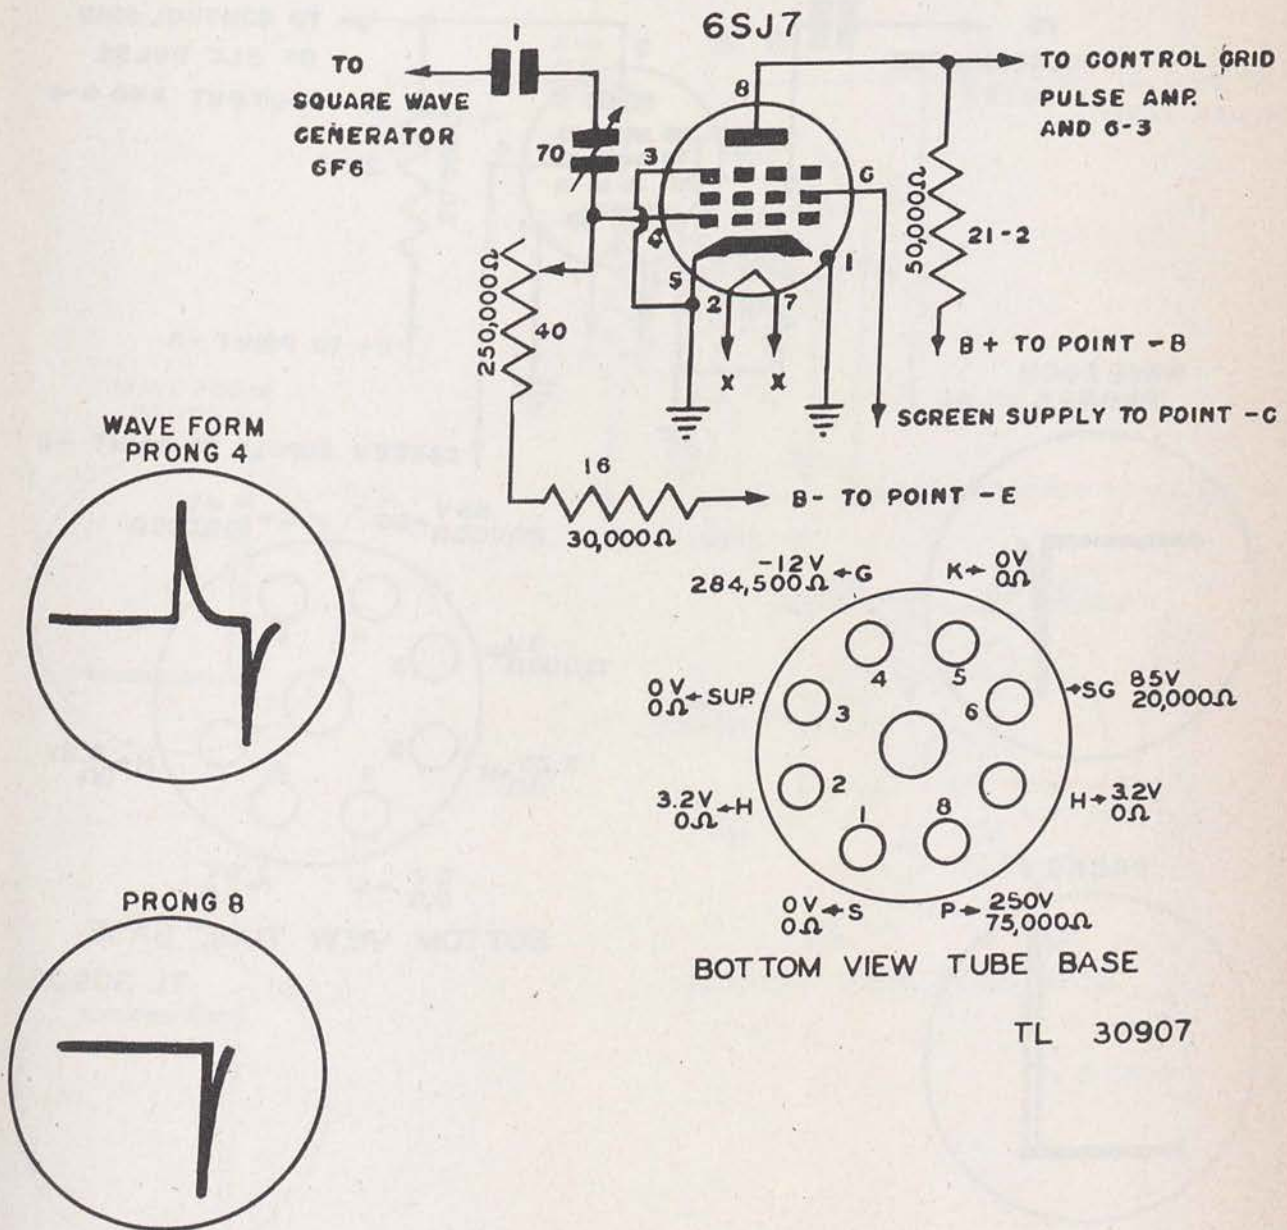

Figure 51. Keyer BC-758-A, pulse shaper stage.
f. TESTING THE PULSE SHAPER STAGE (fig. 51). (1) Check for normal waveform indication between the control grid (tube prong 4) and ground. If no waveform indication is obtained, check coupling capacitor 1, variable capacitor 70,